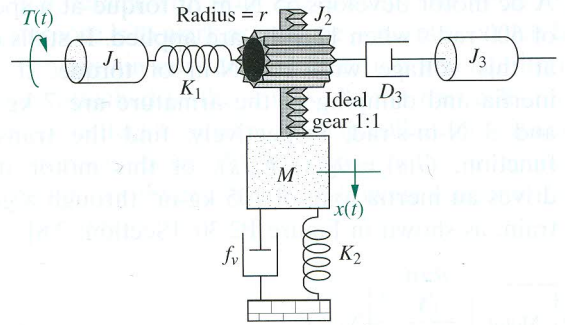

FIGURE P2.27
41. Given the combined translational and rotational system shown in Figure P2.27, find the transfer function,  $G(s) = X(s)/T(s)$ . [Sections: 2.5; 2.6]